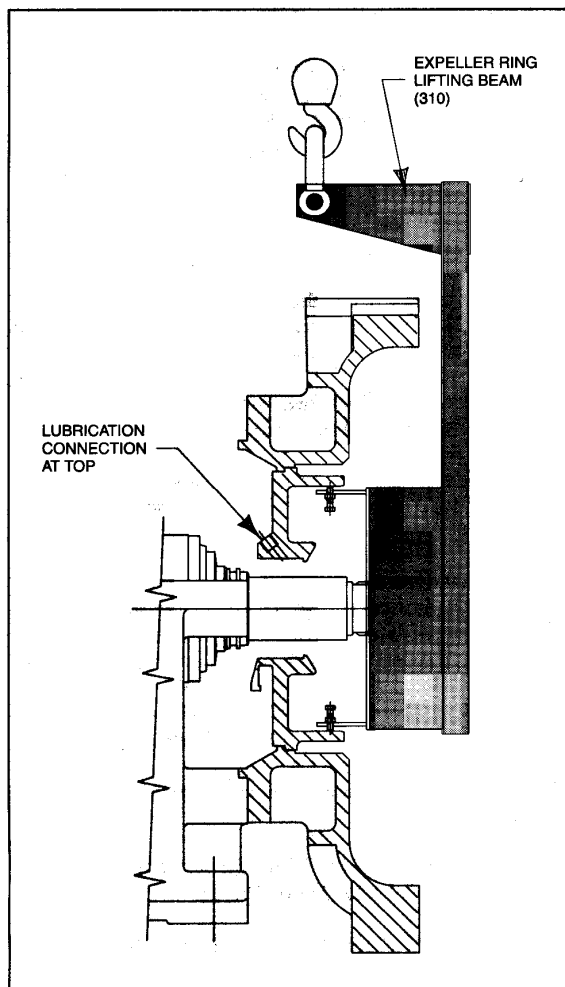

Figure 5-11 Use of Expeller Ring Lifting Beam
- a. Slide SHAFT SPACER (179) onto the shaft up to the labyrinth.
- b. Fit another SHAFT SLEEVE O-RING (109) onto the shaft and slide it up to the flat face of the spacer.
2. Join the three (3) segments of RELEASE COLLAR (239) with its socket head cap screws and tighten securely. Complete Release Collar installation and disassembly instructions are covered on pages 5-9 and 5-10 of the manual. Fit RELEASE COLLAR (flat face out) onto the shaft and slide it up to labyrinth.
3. Slide SHAFT SLEEVE O-RING (109) onto the shaft up to release collar. Apply anti-seize lubricant to exposed shaft, including threads.
4. Slide SHAFT SLEEVE (075) onto the shaft up to the release collar
7. Attach EXPELLER RING LIFTING BEAM (310) to EXPELLER RING (029) on opposite side of lugs using three jacking screws provided, and insure that the water inlet in the expeller ring is in line with the lifting beam. (Refer to Figure 5-11.)
7. Attach EXPELLER RING LIFTING BEAM (310) to EXPELLER RING (029) onto the opposite side of lugs using three jacking screws provided, and insure that the water inlet in the expeller ring is in line with the lifting beam. (Refer to Figure 5-11)
- c. Assemble GLAND (044) halves over shaft sleeve with gland neck toward expeller ring, insert GLAND CLAMP BOLTS (126), and fully tighten. Push into the expeller ring to compress packing rings. Insert GLAND BOLTS (045) and tighten nuts until snug.
10. Fit second SHAFT SLEEVE O-RING (109) and push it into recess in end face of shaft sleeve.
11. Place EXPELLER (028) on shaft, slide over shaft spacer, and press up to shaft sleeve.
1. Fit a SHAFT SLEEVE O-RING (109) into the labyrinth groove.
2. Join the SPLIT RELEASE COLLAR (239) with its socket head cap screws and tighten securely. Complete Release Collar installation and disassembly instructions are covered on pages 5-9 and 510 of the manual. Fit collar (conical face out) onto the shaft and slide up to labyrinth (omit this step for the SBH/100S). Apply anti-seize lubricant to exposed shaft, including threads.
3. Slide SHAFT SLEEVE SPACER (179) onto the shaft and slide up against labyrinth.
4. Fit a second SHAFT SLEEVE O-RING (109) onto the shaft and slide up against the shaft sleeve spacer.
5. Slide SHAFT SLEEVE (075) onto the shaft and up against the shaft sleeve spacer.
7. Attach EXPELLER RING LIFTING BEAM (310) to EXPELLER RING (029) onto opposite side of lugs using three jacking screws provided, and make certain the water inlet in the expeller ring is in line with the lifting beam. (*Refer to Figure 5-11*)
- c. Assemble GLAND (044) halves over shaft sleeve with gland neck toward expeller ring, insert GLAND CLAMP BOLTS (126), and fully tighten. Insert GLAND BOLTS (045) and tighten nuts until snug.
11. Place EXPELLER (028) onto the shaft and press up to the shaft sleeve.